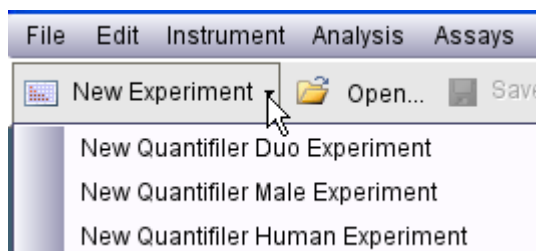

Figure 3 New Experiment
- In the toolbar, click **New Experiment** (Figure 3).